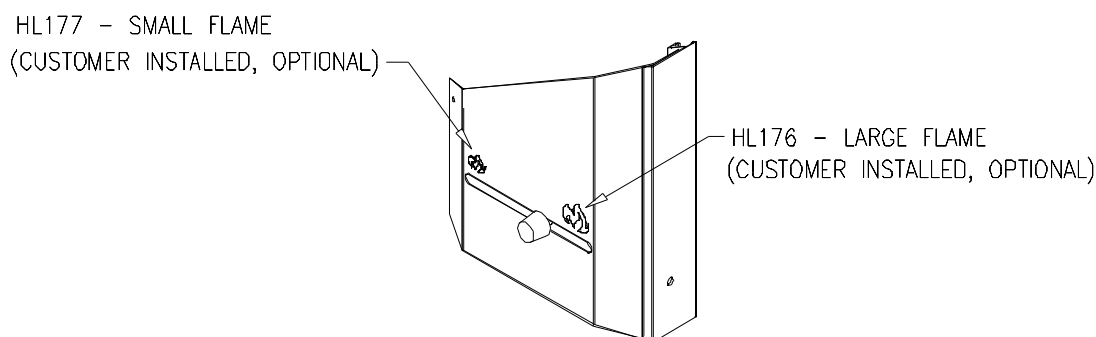

Figure 3.4
3. Install the middle and rear secondary air tubes ensuring air holes face forward. Install the cotter pins as in fig 3.4.